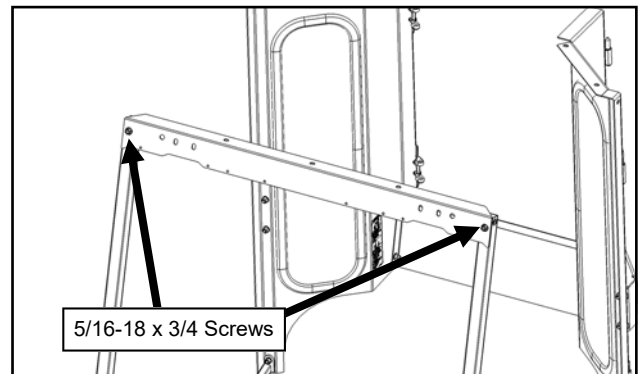

Fig. 9.1 (Install Windshield Support)
- 9.1** Install the Windshield Support to the A-pillars. See Figure 9.1.